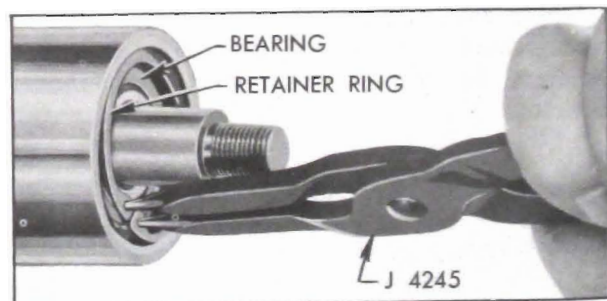

Figure 8-42—Removing Bearing Retaining Ring
6. Remove bearing retaining ring, using No. 3 Truarc pliers J 4245, then remove drive shaft and outer bearing out of pump body with a soft drift. See Figure 8-42.